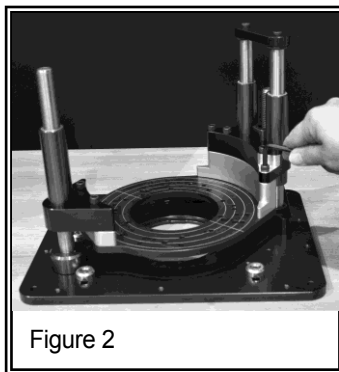

Figure 2
1. Remove the five (5) 1-1/2" cap screws and one (1) 1" cap screw from the carriage brackets (Figures 2 and 3).